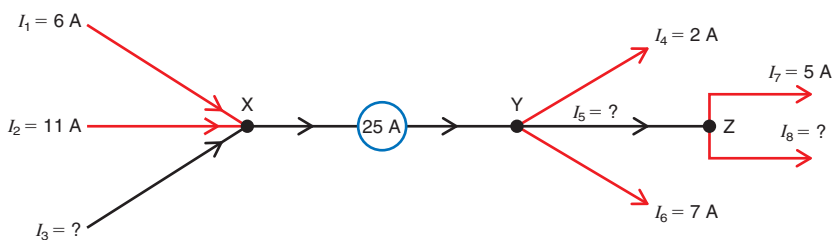

Figure 8-15
- 8.4 In Fig. 8-15, solve for the following unknown currents: I_3 , I_5 , and I_8 .
- 8.5 Apply Kirchhoff's current law in Fig. 8-15 by writing an equation for the currents directed into and out of the following points: